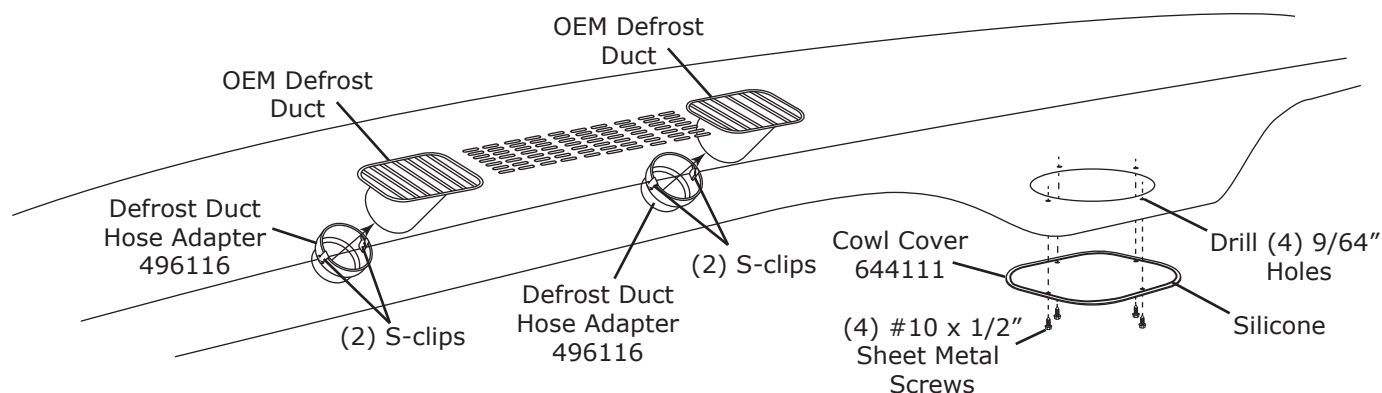

Figure 4
1. Install (2) S-clips onto defrost duct hose adapters (See Figure 4, below).
2. Install defrost duct hose adapters onto OEM driver and passenger side defrost ducts as shown in Figure 4, below.
3. Hold cowl cover under dash and mark the location of the (4) mounting holes.
4. Drill (4) 9/64" mounting holes under dash.
5. Apply a 1/4" bead of silicone around the back side of the cowl cover as shown in Figure 4, below.
6. Secure cowl cover to fresh air hole using (4) #10 x 1/2" sheet metal screws as shown in Figure 4, below.